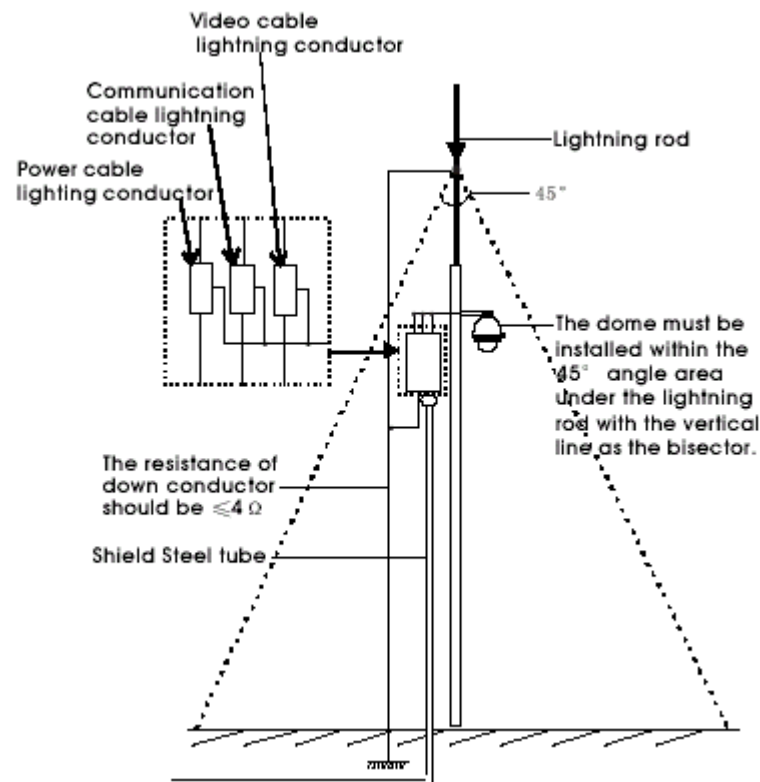

Figure 36
- The system must be grounded with equal potentials. The earth ground connection must satisfy anti-interference and electrical safety requirements and must not short circuit the high voltage electricity network. When the system is grounded separately, the resistance of the down conductor should be $\leq 4 \Omega$ and the sectional size of the down conductor should be $\leq 25\text{mm}^2$ (refer to Fig 36).